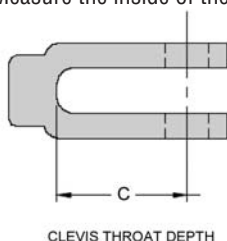

Figure 11
8. Measure the inside of the clevis on the brake to be installed. Refer to Figure 11, Dimension "C."